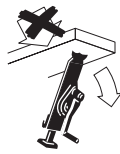

Fig. 2
- Never lift a load with the jack in an inclined position (fig. 2).